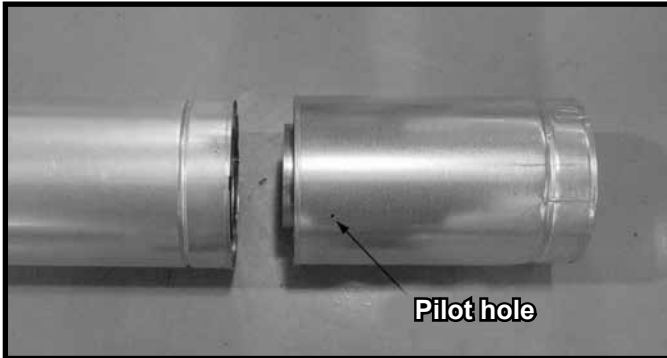

Figure 7.3 Slip Section Pilot Holes
- Slide the inner flue of the slip section into the inner flue of the pipe section and the outer flue of the slip section over the outer flue of the pipe section. See Figure 7.3.